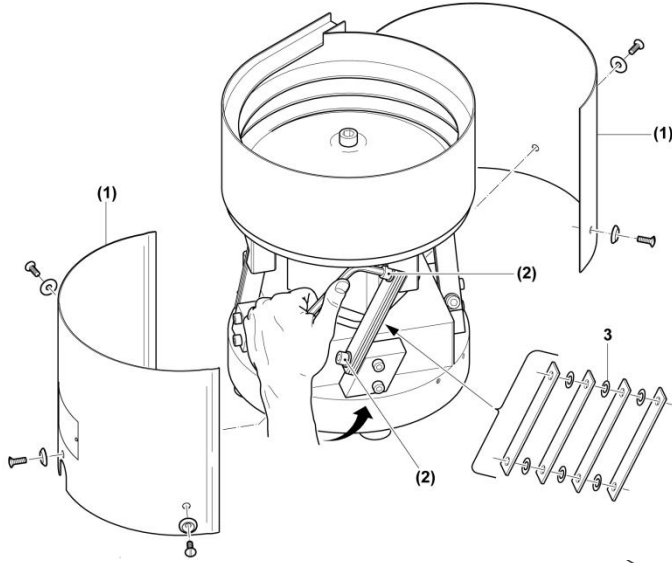

Figure 16
1. Retirer le coffrage (1) (reg. Figure 16)